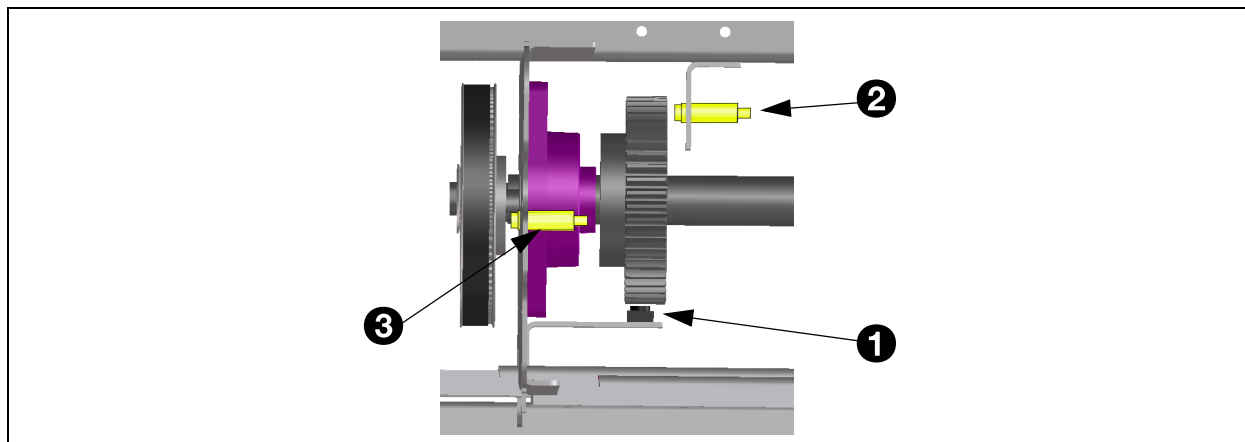

Fig. 170 - Sensor bufres and sensor buf idx
3 sensors are fitted, see fig. 170 and fig. 171.
1. Fit the sensor (1) in line with the axis of the chain-wheel as shown in fig. 170. The sensor may not touch the chain-wheel.
2. Fit sensors (2) and (3) at the standard distance of 2 mm.